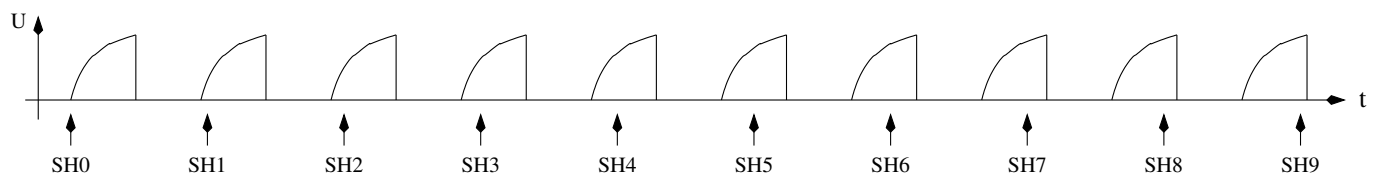

Figure 5.30. Scanning of a voltage curve with the sampling technique
The radio amateur Pieter-Tjerk (PA3FWM) has integrated the measurement capability for very small capacity values ( $< 100\text{pF}$ ) with the sampling technique. The conversion period of the ADC is in fact too long for sampling a fast signal directly. But the voltage of the input signal is hold at a specified time of the conversion cycle, the Sample and Hold (SH) time. The ADC need 13 clock cycles for a total conversion and the ADC clock is build by dividing the processor clock by 128 or 64. The input voltage is fixed at exactly ADC clock number 1.5 for continuous cycles. If the input signal can be generated again and again, we can shift the sample time of the ADC from one to the next signal repetition, so that we get a sample sequence of the fast signal. A normal ADC cycle takes  $13 \times 64 = 832$  clock cycles with a 8 MHz processor clock. If we repeat the input signal with a 831 clock cycle, a uninterrupted ADC (free run mode) would sample the signal one processor clock tick later for every following signal repetition. We must make sure with this method, that the first ADC sampling of the signal is done at the requested starting time. The time of the following ADC samples would be shifted by one processor clock tic later for every next signal repetition. If the signal can be repeated exactly, the combined signal of many periods is the same, which would be sampled and converted directly with a ADC running with the processor clock (8 MHz). Figure 5.30 shows the principle of sampling a ten times repeated signal to get 10 samples (SH0 - SH9). In reality the relative time shift of successive samples is much smaller than shown here.